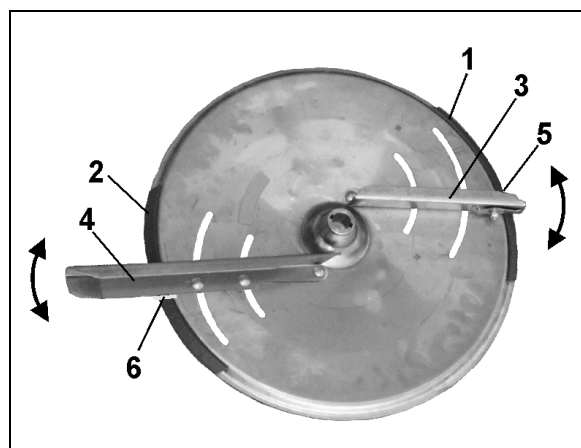

Fig. 54
- The scale (Fig. 54/1) with the figure from 5 to 28 refers to the shorter spreading vane (Fig. 54/3) and the scale (Fig. 54/2) with the figures from 35 to 55 refers to the longer spreading vane (Fig. 54/4)..
- Swivelling the spreading vanes to a higher figure on the scale (Fig. 54/1 or Fig. 54/2)) results in an increase of the working width..
3. Look for the scale figure for the position of the **short spreading vane** on scale (Fig. 54/1).
4. Swivel the read off edge (Fig. 54/5) of the **short** vane (Fig. 54/3) on to the scale figure and **retighten the thumb nut firmly**.
5. Look for the scale figure for the position of the **long** spreading vane on scale (Fig. 54/2).
6. Swivel the read off edge (Fig. 54/6) of the **long** vane (Fig. 54/4) on to the scale figure and **retighten the thumb nut firmly**.